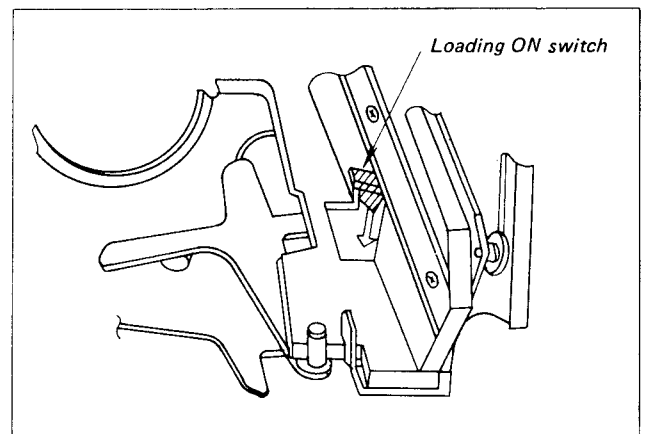

Fig. 2-5.
- Press the Threading ON SW shown in Fig. 2-5 above (this switch needs not be held). Then press desired function button to select each state desired.